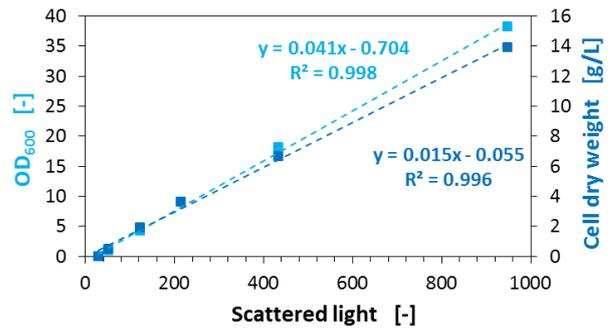

Figure 5: Biomass calibration plot.
- Use the same medium as in scattered light determination to prepare your dilution series. Otherwise the offset value of the calibration is shifted (see Figure 5).
Use a calculation program (e. g. MS Excel) to create a chart. Type the averaged scattered light values in the first column (x-axis) of a data sheet and traditional biomass units in the second or third column (y-axes). Mark the columns and insert an XY chart. Fit linear trend lines to the data sets. Their formulas and coefficients of determination (R^2) ought to be shown in the diagram. In Figure 5 optical density and cell dry weight are plotted versus the corresponding scattered light signals. A serial dilution with six steps and a medium blank were used.
Direct proportionality of scattered light to the concentration of suspended cells defines the range of operation of the BioLector® over a wide range. For example, for *Pichia pastoris* a linear range from $OD_{600} = 0.2$ to 350 (Gain 5) and a CDW of up to 70 g/L was proven. The following example (Figure 5) shows the calibration data of a cultivation of *E. coli* in minimal medium at gain 20.